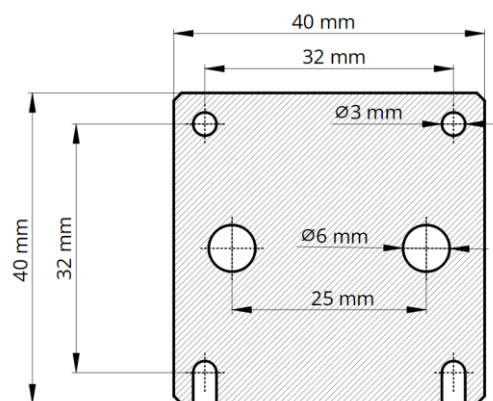

Figure 8.3. Mounting bracket dimensions.
3. **Custom mounting.** The Solar Simulator lamp can be mounted to any user-supplied mounting platform using four M3 bolts and/or two M6 bolts, so long as there is unrestricted airflow 5 cm above and below the lamp unit. The mounting bracket dimensions are shown in **Figure 8.3**